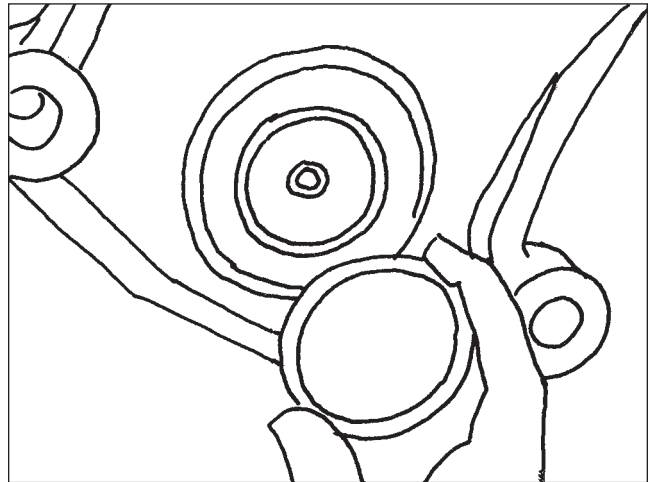

Figure 33
17. Install the dust cover on the frame side of the sector shaft (**Figure 33**).